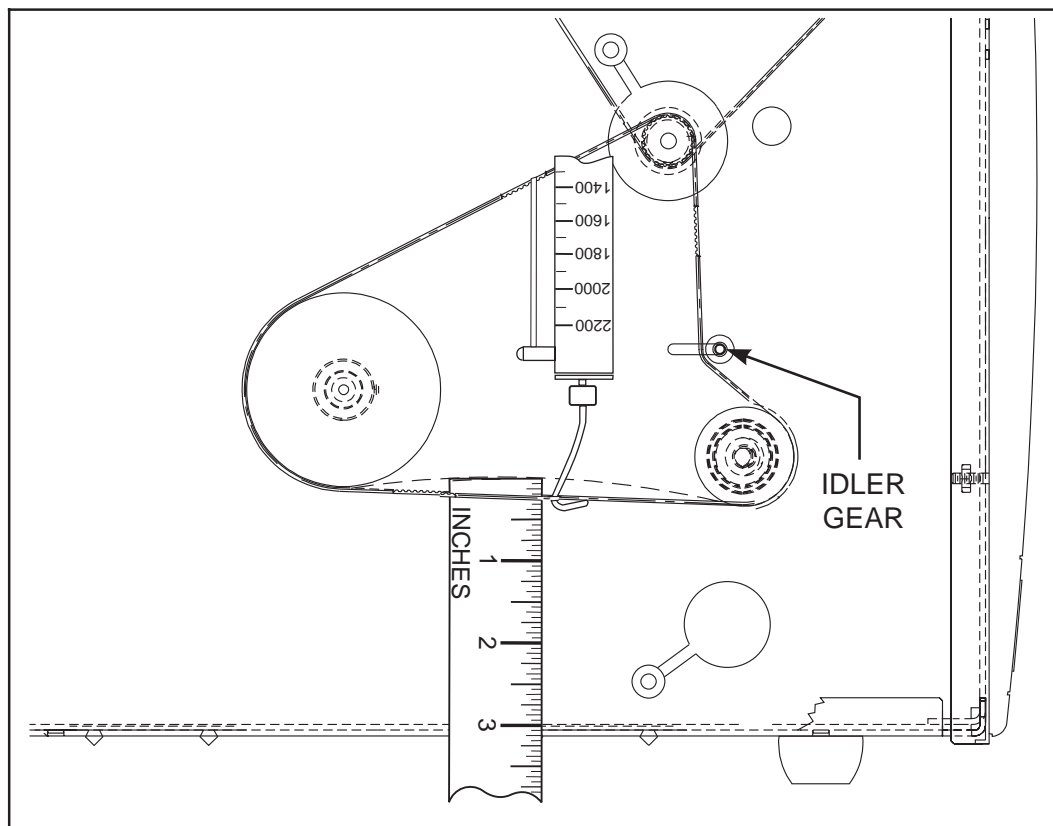

Figure 5.22 90/140/170/220XiII Rewind Drive Belt
3. Refer to Figure 5.22 and note the position of the Idler Gear used to adjust the tension of the Rewind Drive Belt.